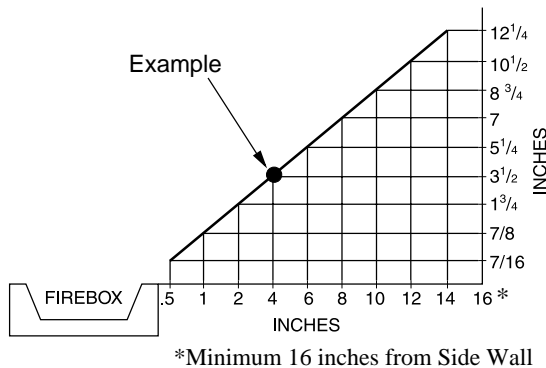

Figure 5 - Minimum Clearance for Combustible to Wall
- A. Clearances from the side of the fireplace cabinet to any combustible material and wall should follow diagram in Figure 5.
**Example:** The face of a mantel, bookshelf, etc. is made of combustible material and protrudes 3 1/2" from the wall. This combustible material must be 4" from the side of the fireplace opening (see Figure 5).